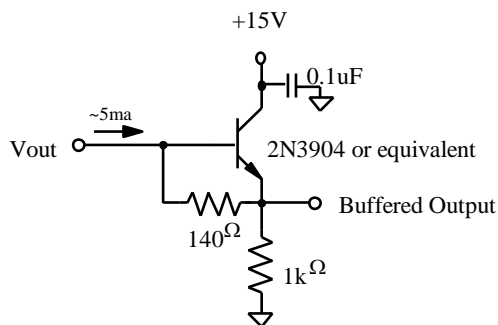

Figure 7: Example Output Structure Load Diagram
1. An output load sink must be applied to Vout to activate output amplifier - see Figure 7 below.